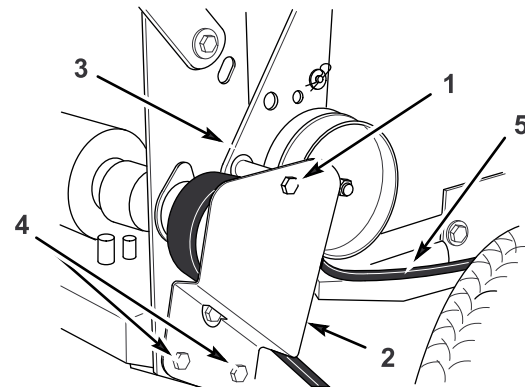

Figure 42
2. Remove the top bolt securing the idler support and the idler bracket to the rear frame (Figure 42).
3. Loosen the bottom 2 mounting screws enough to allow the belt to pass between the drive pulley and the idler support (Figure 42).
6. Install the top bolt securing the idler support and the idler bracket to the rear frame (Figure 42).
7. Tighten the bottom 2 mounting screws enough to allow the belt to pass between the drive pulley and the idler support (Figure 42).